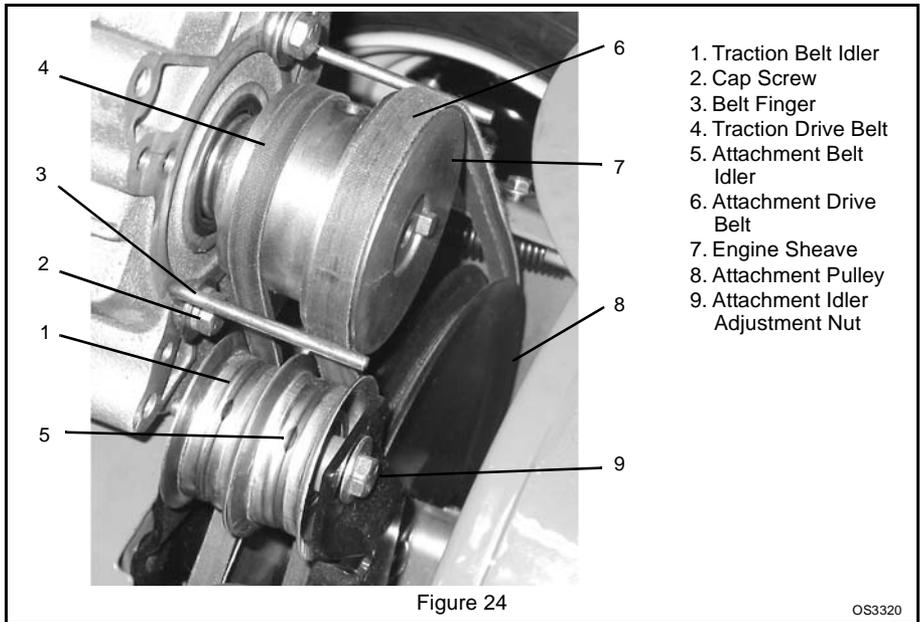

Figure 24
2. Check belt alignment (Figure 24).
- b. To increase spring extension, move idler towards belt (Figure 24).
10. Check belt finger clearance (Figure 24).
4. Loosen cap screws and carefully rotate belt fingers away from belt and sheave (Figure 24).